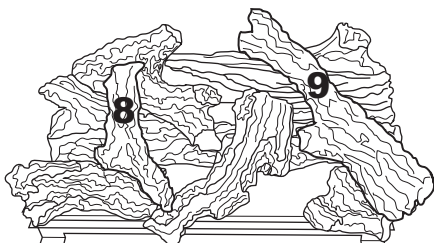

Figure 47 - Installing Logs No. 8 and No. 9
- Rest log #8 (left crossover log) onto log #3 and rest log #9 (right crossover log) onto logs #4 and #5 as shown in Figure 47.